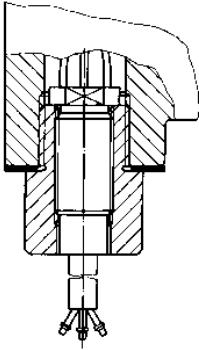

Fig. 6.1
**Type 6115-11** (Fig. 1) · i/p converter, threaded conductor bushing with a cable of 3 m in length (Fig. 6.1) for direct cable entry according to DIN EN 50 018.